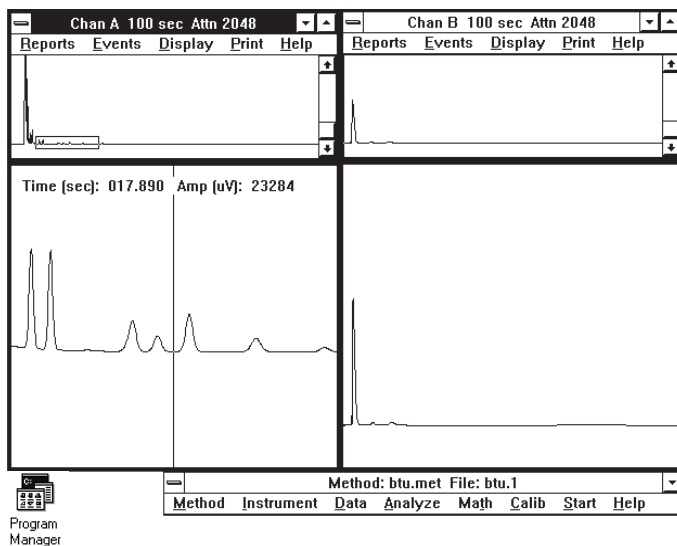

Figure 15 Using the single vertical cursor
2. Click the **right** mouse button. A single vertical line should appear. (See Figure 15) When the mouse is moved to the left or right, the vertical cursor should move accordingly.